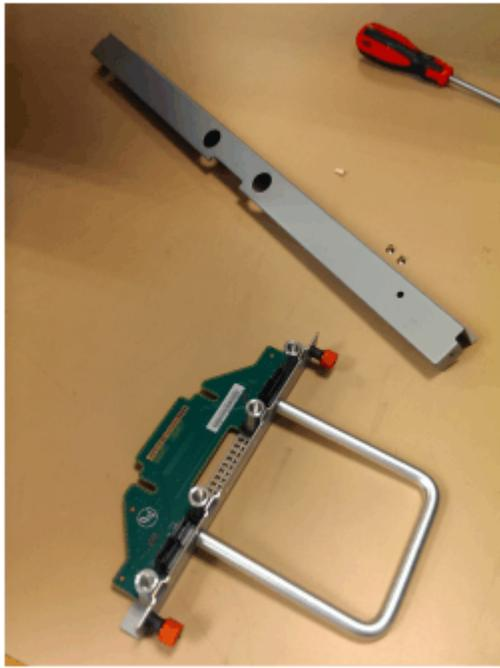

Figure 127. FIB parts removed from the chassis
4. Place the FIB (shown in Figure 127 on page 115) in a safe location.